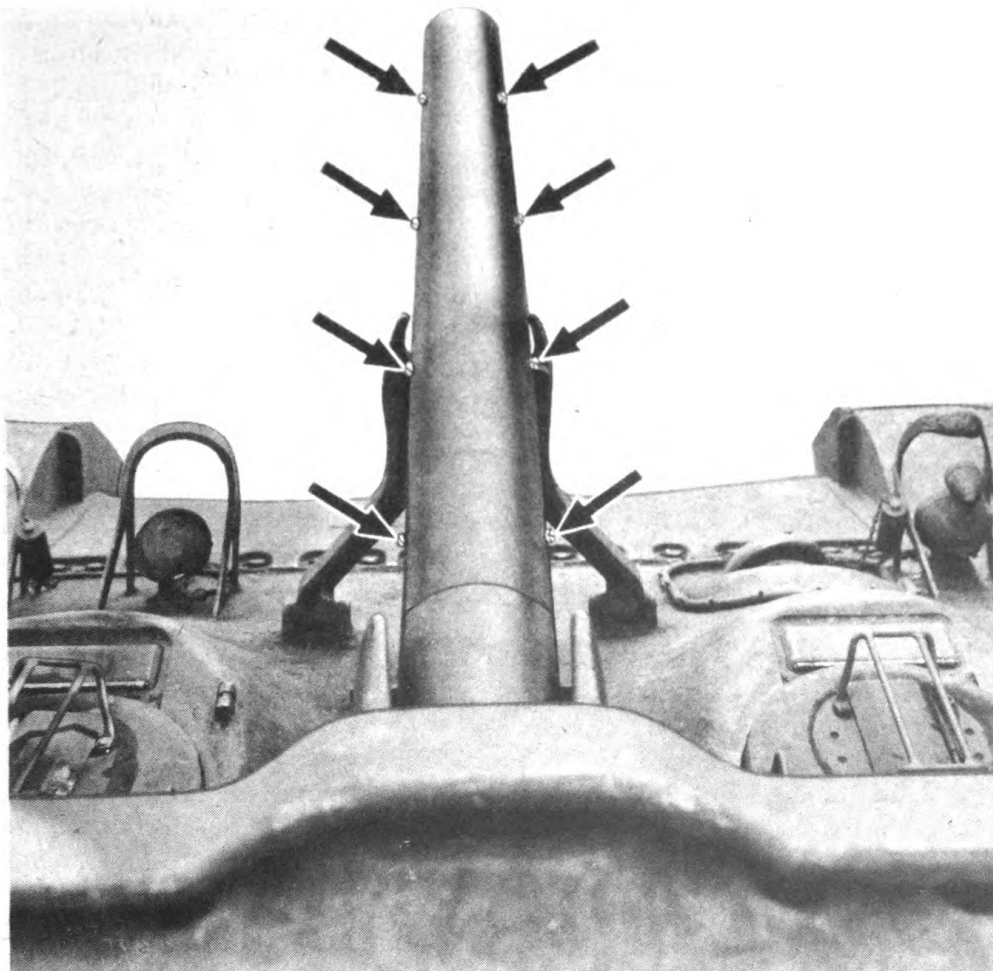

Figure 63—Special dummy 75-mm. rifle tube. (Arrows indicate screws for removal of tube cover.)
The special dummy 75-mm. rifle tube replaces the normal 75-mm. gun tube of medium tanks and duplicates its silhouette. This tube is fabricated from 1/2-inch face-hardened armor plate. The forward, tapered part is divided lengthwise into two halves which are held together by eight special stainless steel screws (fig. 63). By removing these screws, the cover (upper half) of the tube can be removed for servicing the flame thrower ignition system or for changing the flame gun long nozzle extensions (fig. 53).
- a. Lift off tube cover after removing eight screws (fig. 63).